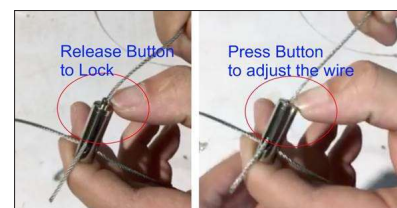

FIG. 3
5. Hang the fixture to the ceiling hook and adjust the length according to your height requirements. See Fig 3. for adjustment.